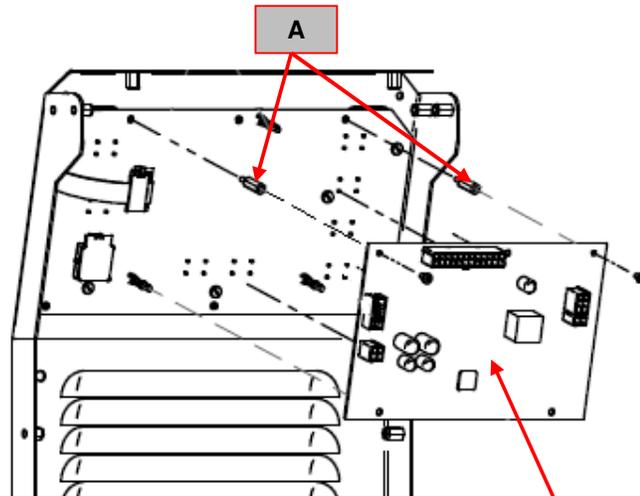

Figure 42
5. Remove the Control board following the instructions provided in the previous page. See **Figure 42**
6. Using the 5,5mm wrench remove the 2 metal standoff (**A**). See **Figure 42**